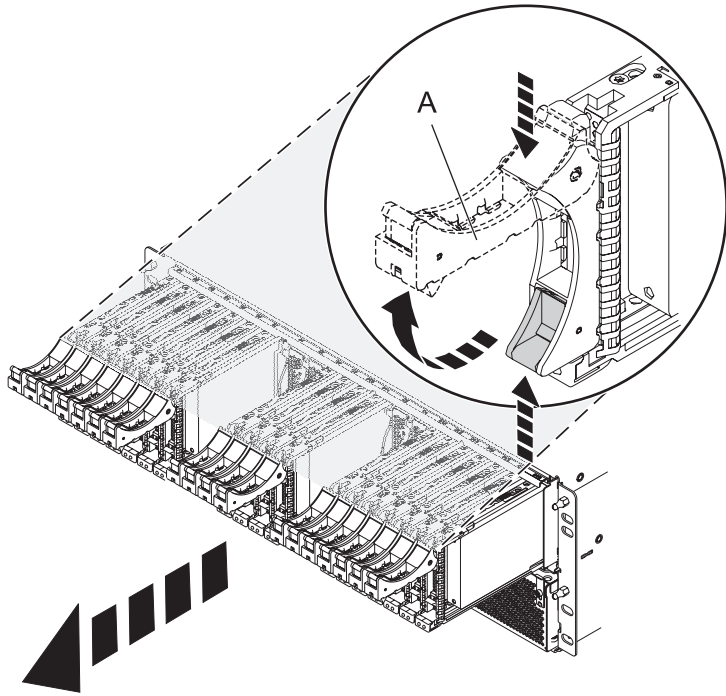

Figure 94. Removing the drives from the backplane
4. Remove the drives and fillers as shown in Figure 94 on page 127.
- a. Squeeze the latch of the drive and pull the handle (A) toward you to release the drive.